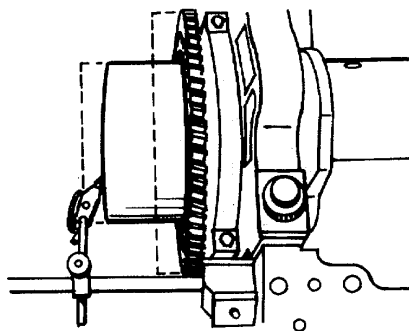

FIGURE 4-78. Measure Crankshaft End Play.
- k. Measure the crankshaft end play using a dial indicator. (FIGURE 4-78)